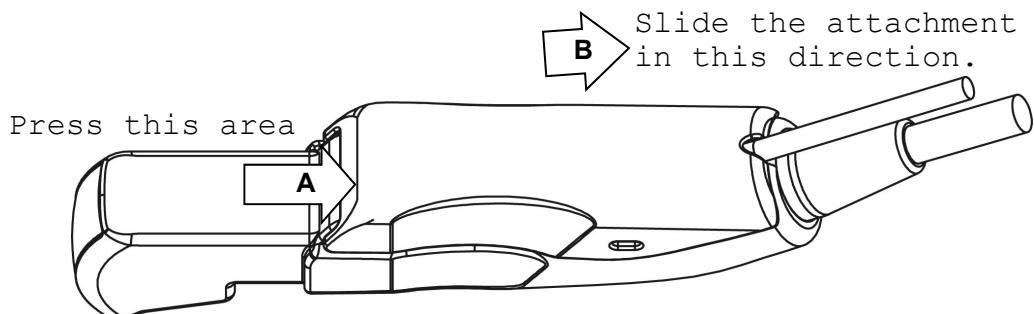

Fig. 16 How to release the attachment from the probe
- 1) Press the area of the attachment shown with the arrow toward the direction A, and then slide out the attachment toward the direction B as shown in Fig. 16 and release it from the probe.